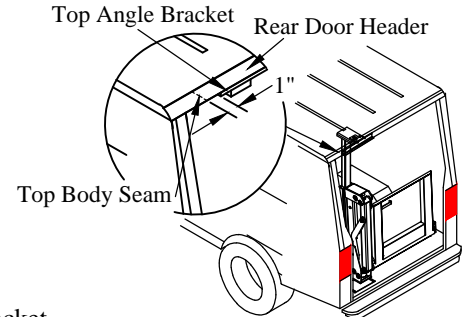

Figure 9: Liftgate in rear opening.
3. **Position** the liftgate in the rear opening such that the top angle bracket is 1" from the top body seam on the rear door header (Figure 9).